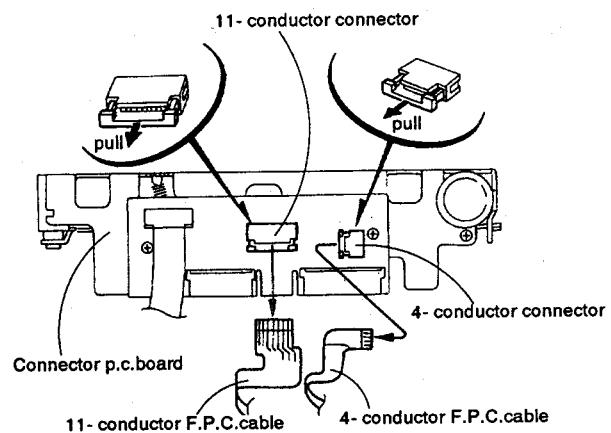

Fig. 2-8
1. To disconnect the 11-conductor and 4-conductor F.P.C. cables, first pull the connectors in the directions of arrows as shown in Fig. 2-8.
2. When reassembling, arrange the 11-conductor and 4-conductor F.P.C. cables as shown in Figs. 2-8 to 2-10.